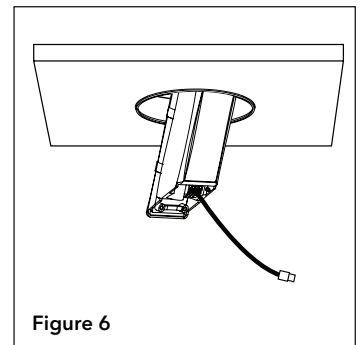

Figure 6
Step 6. Pass connected power supply through ceiling opening and secure in ceiling, leaving power wires exposed for later connection to luminaire (Fig. 6). Locate power supply in ceiling, leaving power wires exposed for later connection to luminaire.